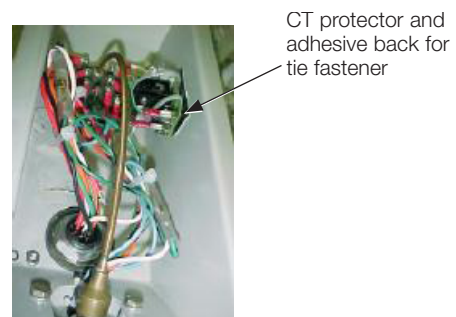

Figure 7.
3. Remove the adhesive protector on the adhesive-backed tie fastener (Item 18). Locate and place in the center on the inside surface of the back of the junction box with the fastener running parallel to the bottom of the box. Refer to Figure 7.